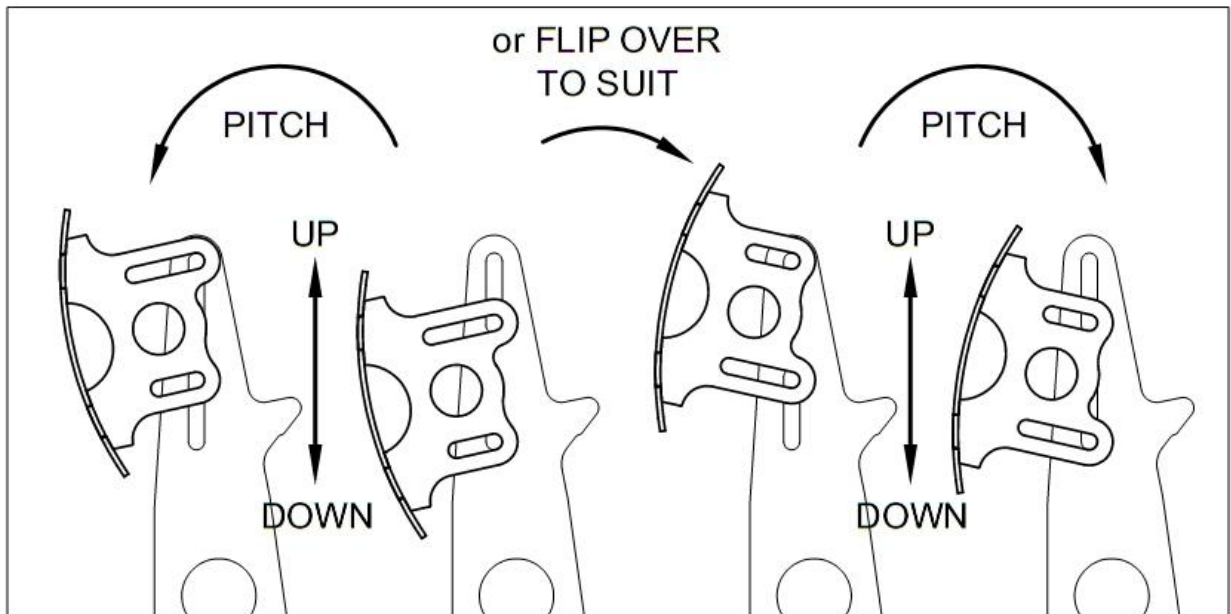

Figure 13 Pedal Face Adjustment (Pitch)
- Mechanical advantage, commonly known as Pedal Ratios, on this assembly can be adjusted by moving the pedal face up or down using the slots provided. (refer to Figure 13 & 14)
- The pedal face may be moved up/down, in/out, flipped over or pitched about the vertical position using the slots provided to suit your installation – see Figures 13 & 14 below.